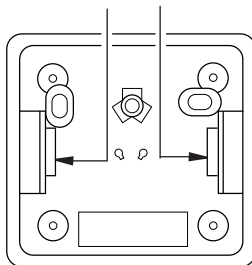

Figure 33 - Back View of Thermostat Base
5. Feed electrical wires through rectangular slots on each side of base (see Figure 33).